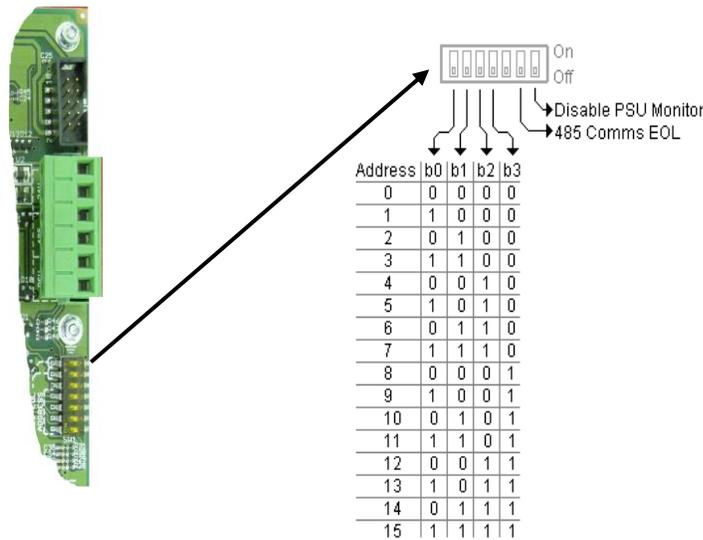
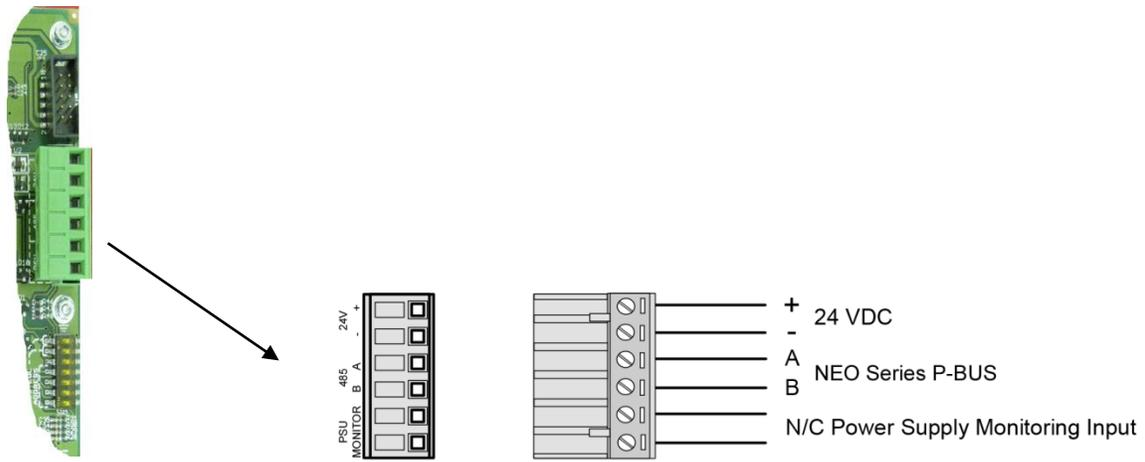

Figure 58 – Switch LED Module Addressing
Figure 59 – Switch LED Module Wiring
Each Switch LED Module must be connected to the NX-FACC-1 command center or NX-CC01-BB/NX-CC02-BB modular command center NX-FACP base card P-BUS (RS485). As the Switch LED Modules reside on the NX-FACP PBUS (RS485), each module must be configured with a unique address (see figure 58). The address setting corresponds to PBUS programming criteria utilized within the SHIELD PC-NeT field configuration program.
24 VDC power for Switch LED Modules can come from any fire alarm listed 24 VDC filtered and regulated power supply (NX-FACP AUX [non resettable] power, NX-EM-PSU6, NX-PSN or other fire alarm listed power supply). Wire 24 VDC filter regulated power to terminals + and – of the Switch LED Module (see figure 59).
**Note: The Switch LED Module is capable of monitoring a remote listed 24 VDC filtered regulated power supply for trouble conditions. Wire the trouble N/O contact (fail-safe [closed unless trouble]) to PSU monitoring terminals of the Switch LED Module (see figure 59) and confirm DIP switch 7 “Disable PSU Monitoring” of the Switch LED Module is set to the “OFF” position (see figure 58).**
Connect the PBUS (RS485) terminals A and B of the NX-FACP base card to the 485 (PBUS) A and B input terminals of the Switch LED Module (see figure 59). If this is the last module connected to the NX-FACP PBUS (RS485), set DIP switch 6 “485 Comms EOL” on the Switch LED Module to the “ON” position (see figure 58).